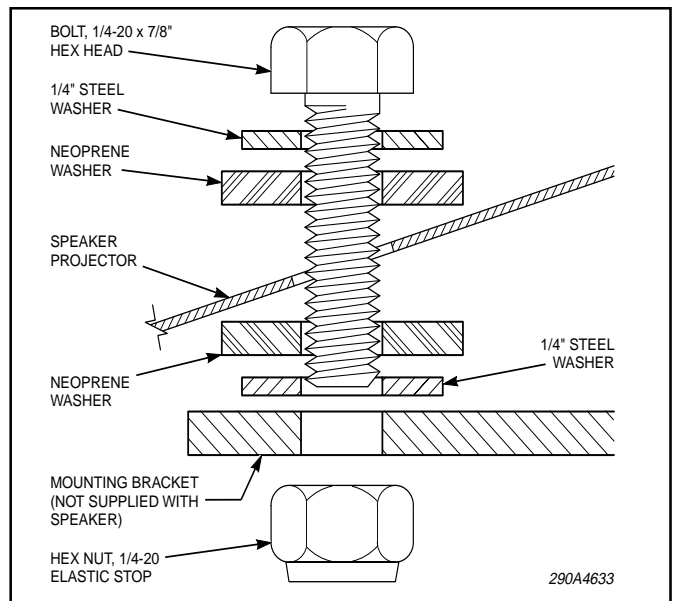

Figure 2.
b. See figure 2. Assemble hardware as shown when mounting speaker.